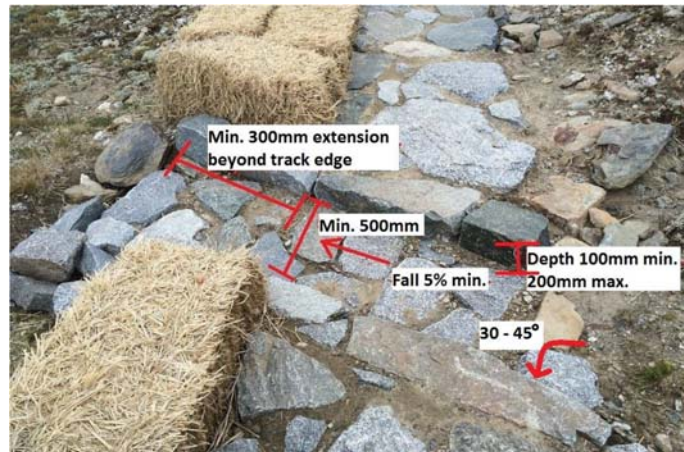

Figure 3: example of rock step over drain
- 5% outfall and extend beyond outside of the track (see Figures 3 and 4)